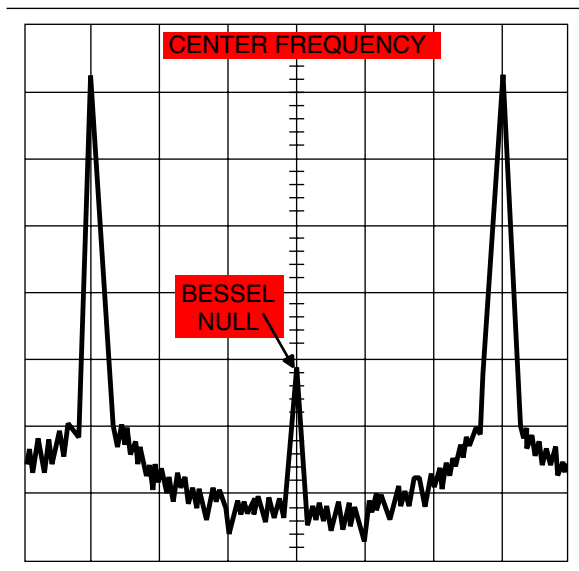

Figure 3-9. Typical Spectrum Analyzer Display of Bessel Null on FM Waveform
5. On the 692XXA/693XXA, use the cursor control key to place the cursor under the last 0 in the deviation setting (0.240 MHz). While observing the first Bessel null (Figure 3-9), increase/decrease the deviation frequency with the cursor control key to reduce the carrier as low as possible.
4. On the 692XXA/693XXA, use the cursor control key to place the cursor under the last 0 in the deviation setting (0.240 MHz). While observing the first Bessel null (Figure 3-9, page 3-35), increase/decrease the deviation frequency with the cursor control key to reduce the carrier as low as possible.